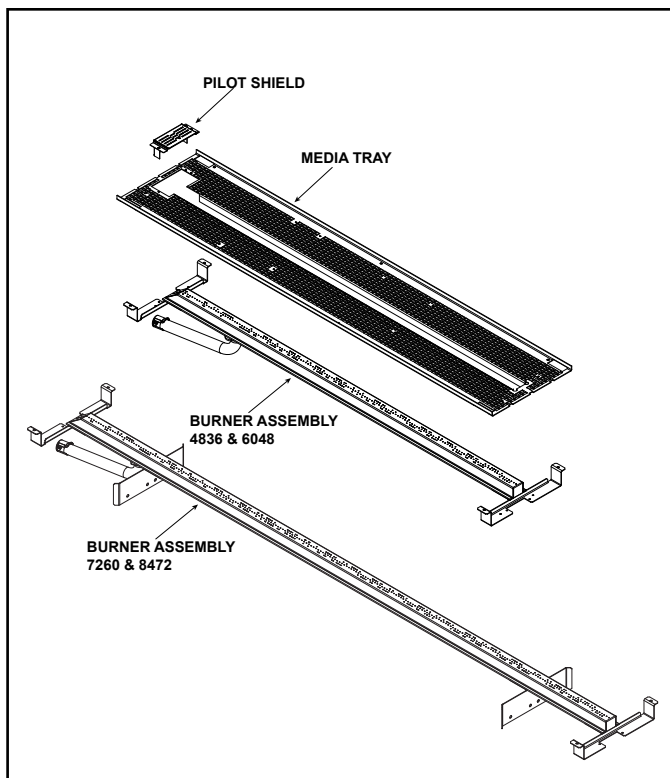

Figure 1. Base Pan with Burner and Pilot Cover
10. Remove the two screws that attach the pilot to the burner. See Figure 1.